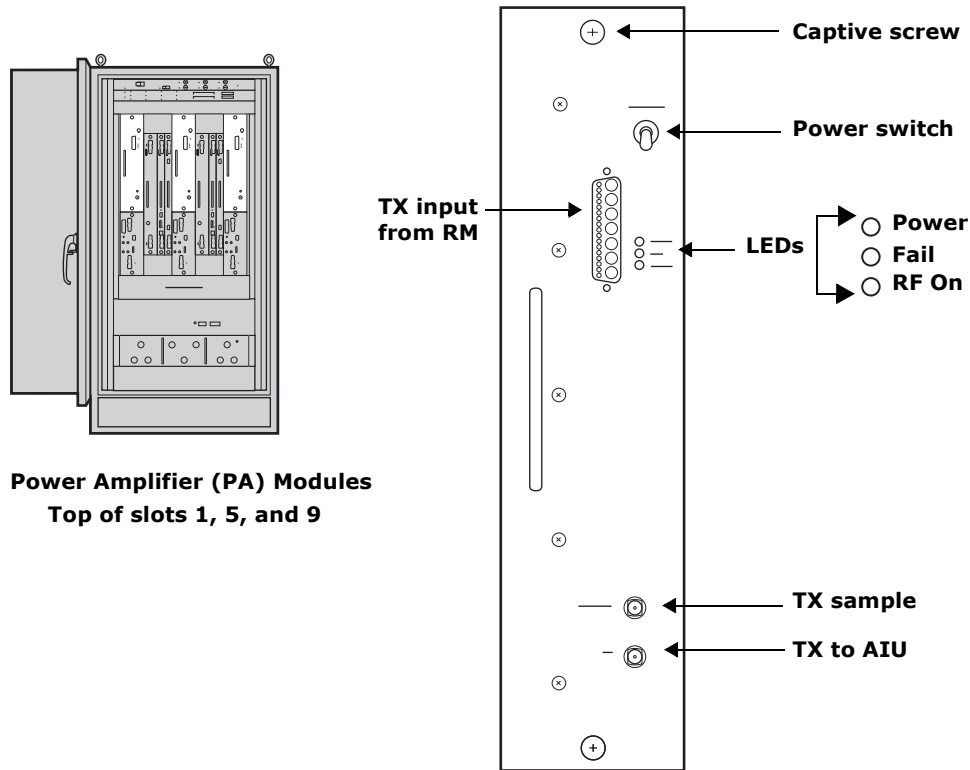

Figure 8 Power Amplifier
The Power Amplifier (PA) is one of two modules that make up the Sector Radio Kit. See Figure 8 and Table 10. PAs install in upper slots 1, 5, and 9, depending on the radio sector. The PA supports a single sector and a single corresponding antenna. Typical deployments support three sectors and use three PAs.